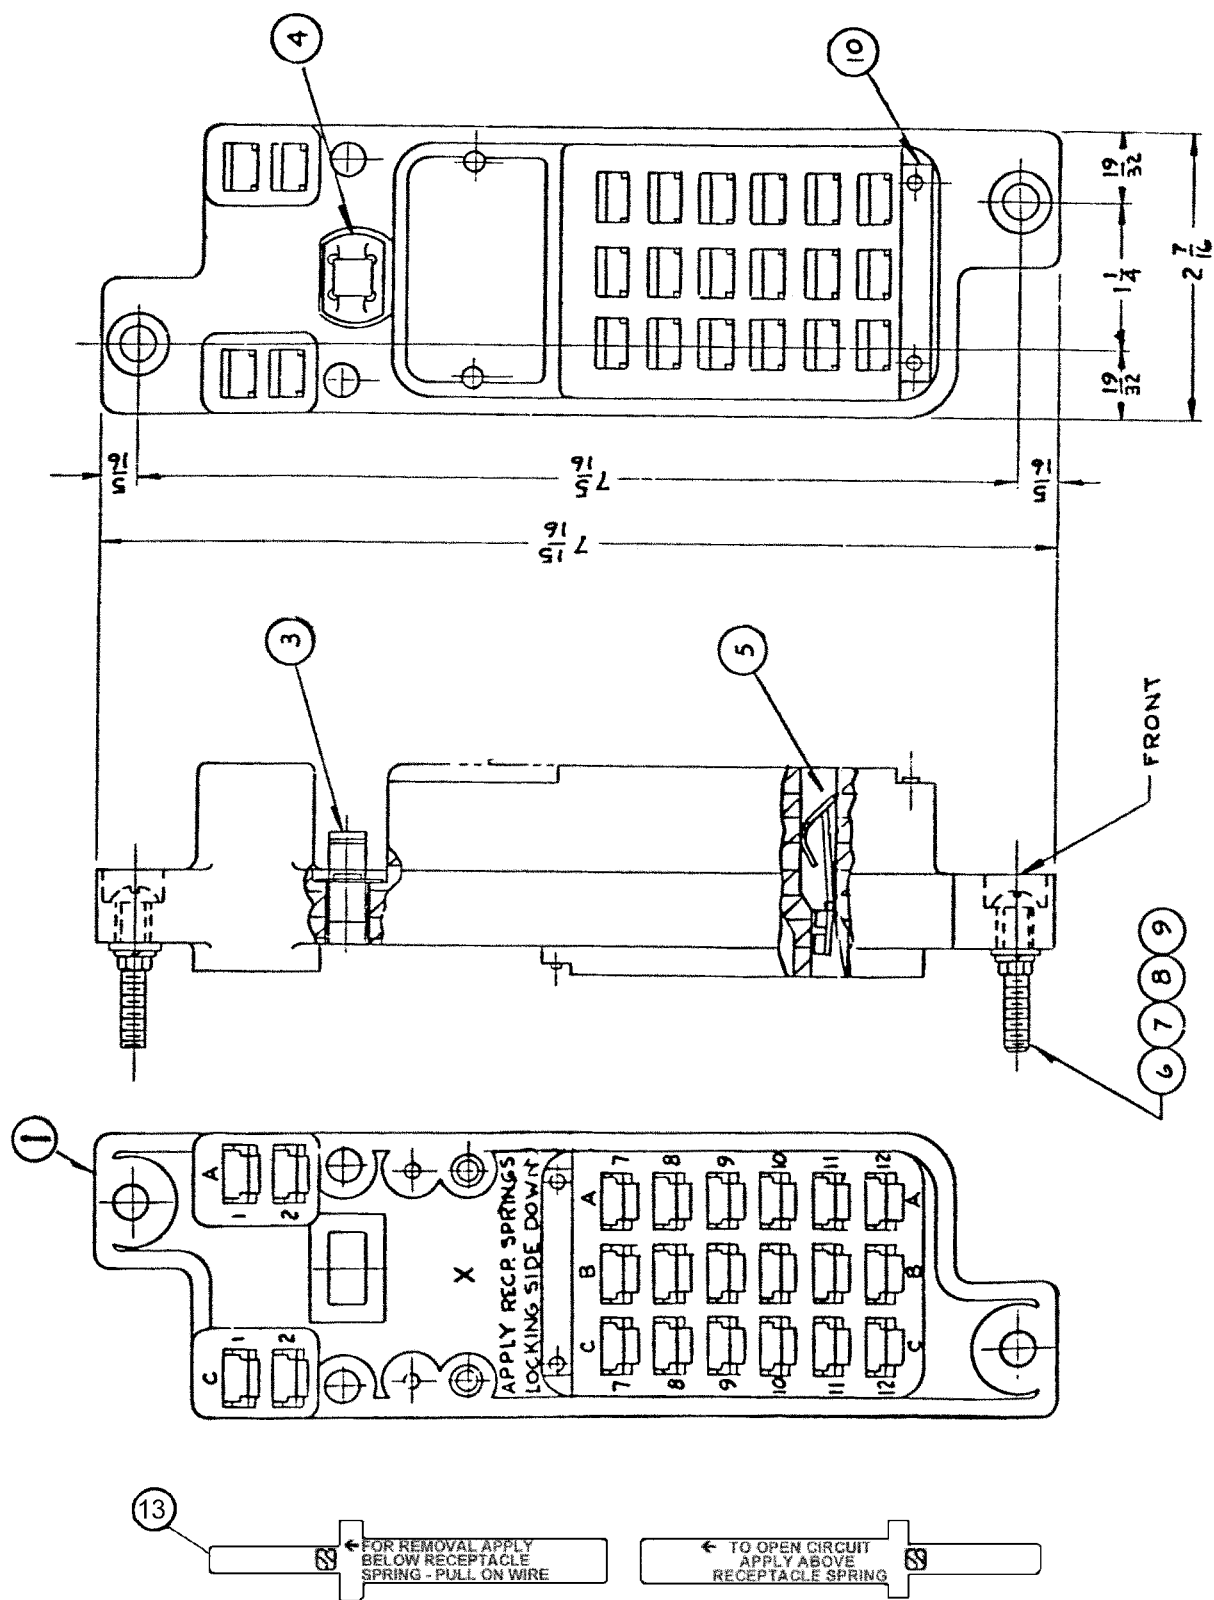

Figure A-4. Improved Mounting Base for PN-150B Relays
A.4 PARTS LIST FOR IMPROVED MOUNTING BASE PN-150B RELAYS (FIGURE A-4)